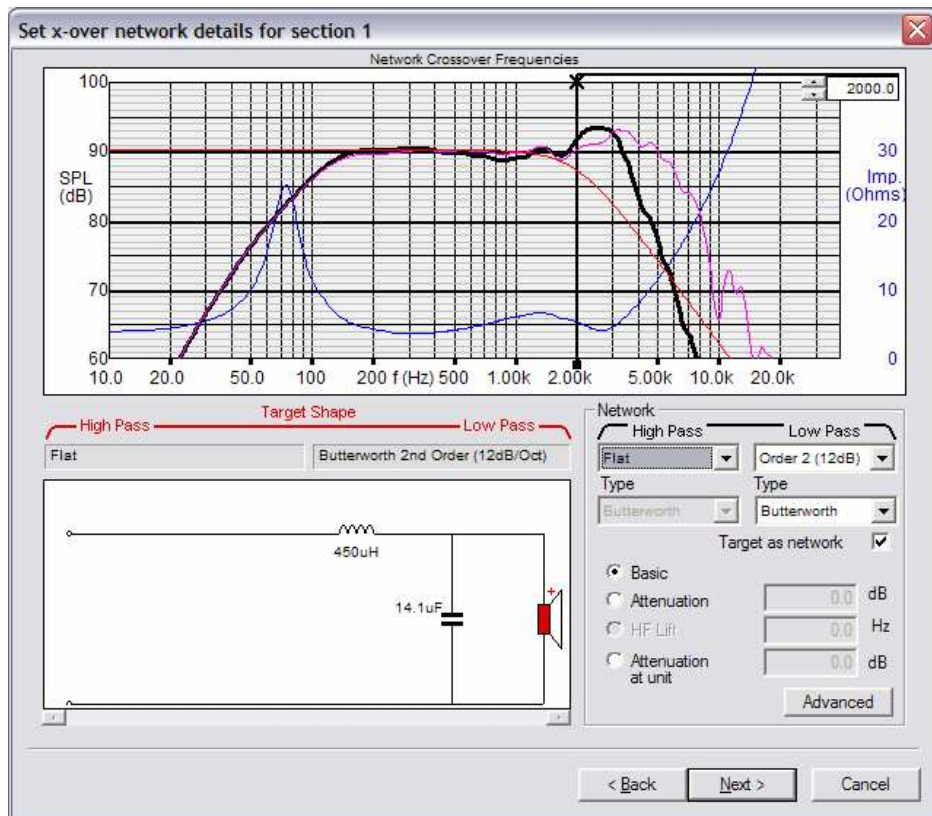

Figure 4. Target response
Now is the time to select the x-over type and Target frequency response. Figure 4 shows the first section - woofer (LF). We may chose Butterworth (Linkwitz-Riley, Chebyshev and Bessel are also possible) type and 1st Order (6dB/Oct) up to 4th Order (24dB/Oct). The black vertical x-line shows the chosen x-over frequency, and we have selected 2nd order (12dB/Oct) Butterworth at 2000Hz. You can drag the X-line by the left mouse button, while observing the filtered section response change.